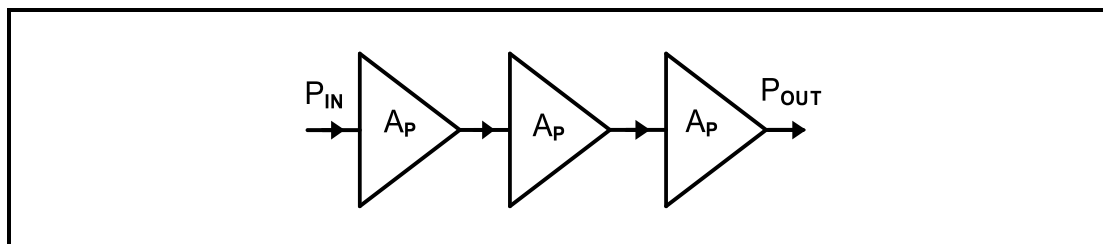

FIGURE 6.4: BLOCK DIAGRAM OF A MULTISTAGE AMPLIFIER
- 6.4 Refer to FIGURE 6.4 below and calculate the logarithmic gain in decibel when the multistage amplifier has the following values: